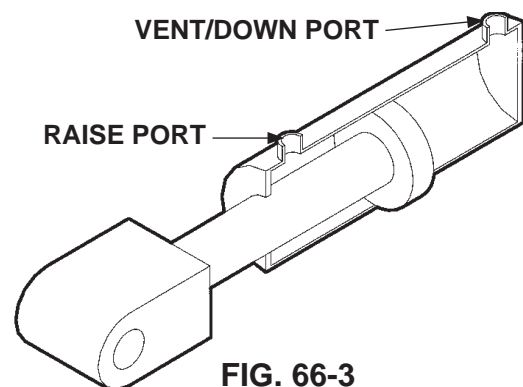

FIG. 66-3
3. Check the hydraulic cylinder. With the platform on the ground, remove the hydraulic line from the vent/down port of the cylinder (**FIG. 66-3**). Raise the platform even with the bed. Allow pump motor to run two seconds more while you watch for hydraulic fluid at the vent/down port. A few drops of hydraulic fluid escaping the vent/down port is normal; however, if it streams from the vent/down port, piston seals are worn. Replace seals.